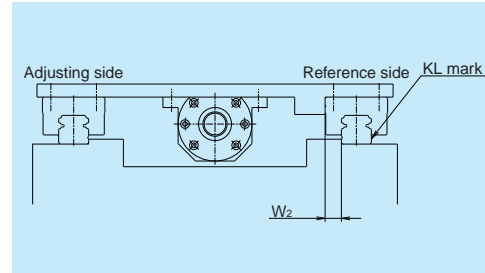

Fig. 9.2 Most common setting of the reference side rail
- When the datum faces of the reference side rail and slides are pressed to their mounting datum faces respectively, the variation of distance (mounting width  $W_2$  or  $W_3$ ) between the datum faces of the rails and that of the slides must be a minimum and therefore, it is specified as the standard. (Fig. 9.2 and 9.3)